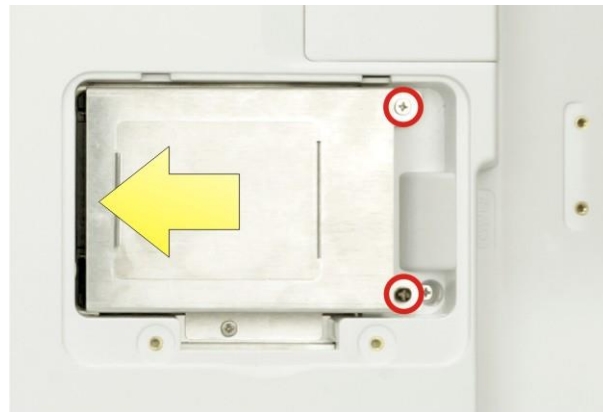

Figure 3-4: HDD Installation
Step 6: Place the HDD and slide it to securely connect to the SATA connector of the POCm-W22/24C-RPL (**Figure 3-4**).
Step 7: Secure the HDD bracket by fastening the two retention screws previously removed (**Figure 3-4**).